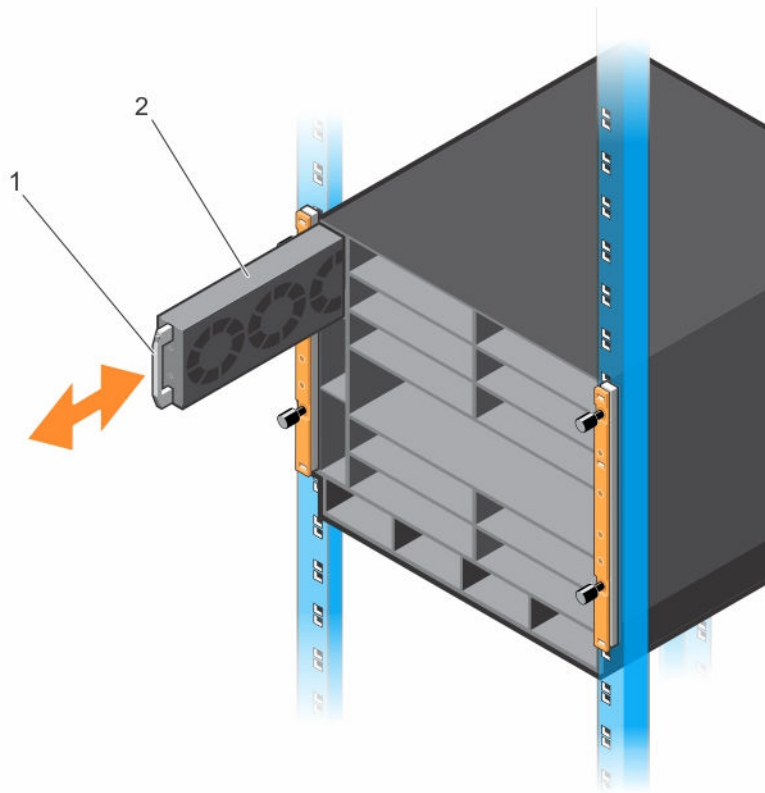

Figure 19. Installing a Fan Module
1. Slide the first fan module into fan slot 0 by pushing the handle (item 1 in Figure 19) forward into the uppermost fan slot (item 2 in Figure 19).